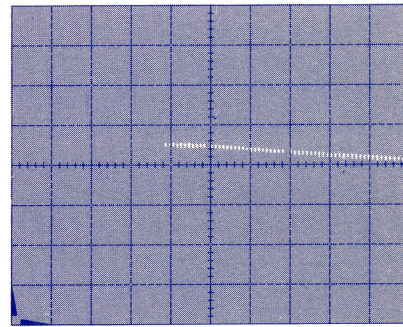

Figure 3-4. Change in common current as output load is changed. Each horizontal division along the trace equals 200 mA (20 ma/dot).
- Press STEP X.1 to release to out position. See Figure 3-4. 20
- 7) Store and measure trace — Press UPPER and LOWER STORE buttons on 577 to obtain clear trace. (If necessary, also press UPPER and LOWER ERASE buttons to clear screen.) Then, turn down display INTENSITY control. Measure change in vertical displacement (taking into account X10 magnification) over horizontal range of interest. [5 mA to 1 A]. Compare with specified value. [0.5 mA, or 5 vertical divs]. See Figure 3-4. 3 2 4
Figure 3-5. Display of quiescent current. Upper trace is same as shown in Figure 3-4. Lower trace shows output voltage variation over low end of regulator load range. Each horizontal division along trace equals 10 mA (1 mA/dot). Point (A) is 100 μ A/div.